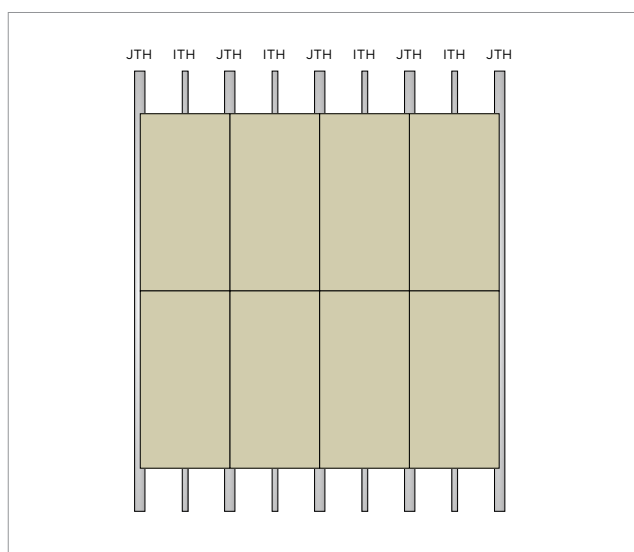

Figure 2. Vertical Layout Aligned Grid Pattern.
- If the panel is installed horizontally or runs across two intermediate top hats, the board must have two fixed points as close to the centre of the panel and must be aligned horizontally. (see Figure 2)